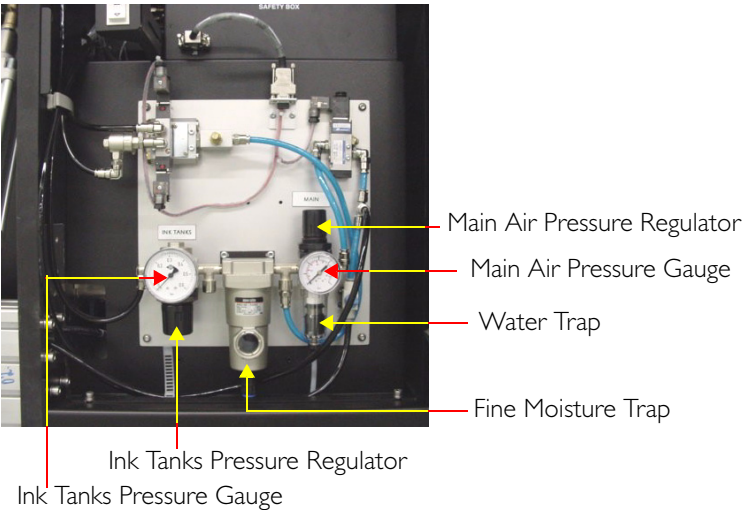

Figure 12. Air Pressure Gauges
5. Check the water trap beneath the main pressure regulator (see Figure 12) and if necessary, press the valve at the base in an upward direction until all the water has drained. Release the valve and make sure the trap is closed.
6. Check the fine moisture trap (see Figure 12) and if necessary release any excess moisture by turning the knurled nut at the base of the trap in a *clockwise* direction until all the moisture has drained. Then turn the nut *counter-clockwise* until the trap is securely closed.
2. If moisture or excessive humidity is present, drain the excess liquid from the air line water trap (see Figure 12 on the previous page) by pressing the valve at its base in an upward direction, until all the water has drained.